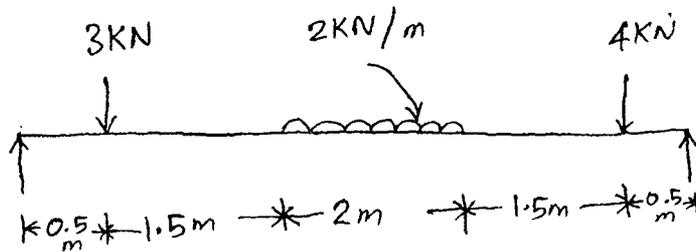

Fig. Q. 13 (b)
- (b) Draw shear force diagram and bending moment diagram and find the maximum bending moment for the beam given in Fig. Q. 13 (b).